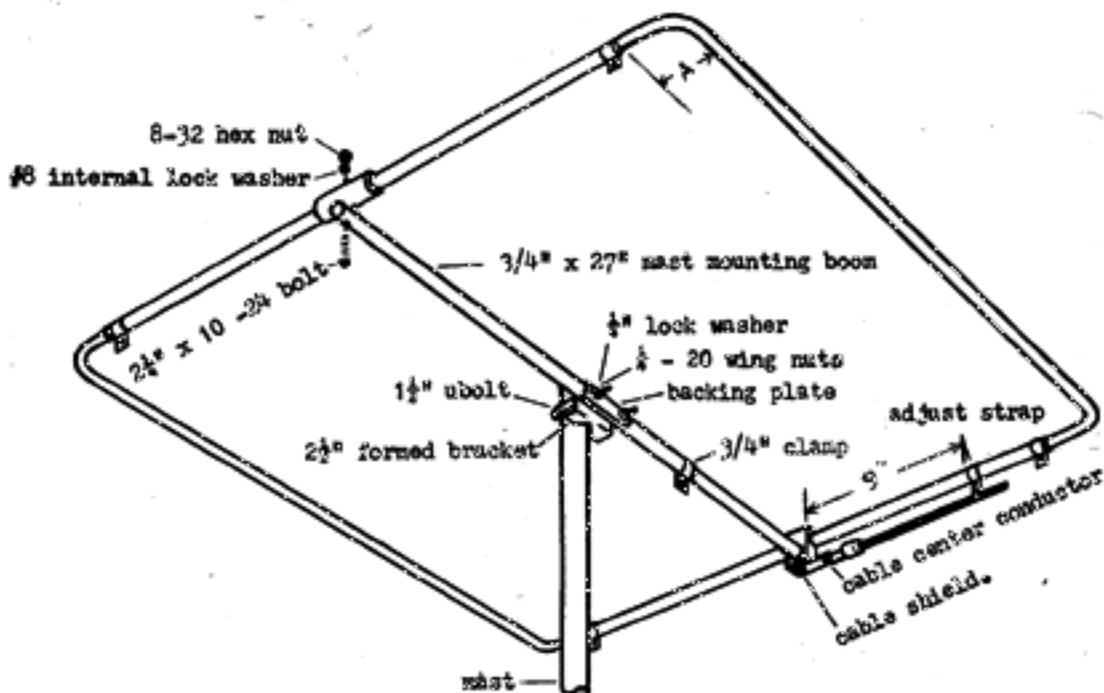

FIGURE 3
- (1) Assemble the Squalo by following step # 2 of the car top mounting instructions. The approximate setting, dimension A is $1 \frac{3}{8}$ " figure 3. For mast mounting the machined aluminum block should be vertical, with the Reddi Match below the $\frac{5}{8}$ " tubing, figure 3.
- (2) Insert the capped end of the $\frac{5}{8}$ " x 9" tubing into the machined block and tighten the set screw. Slide the slotted end of the $\frac{3}{4}$ " x 27" mast mounting boom over the $\frac{5}{8}$ " tubing. Attach the free end to the insulator, and tighten the $\frac{3}{4}$ " clamp, figure 3.
- (3) Mount the Squalo on your mast. Attach the feed line to the Reddi Match. Run the coax along the mast mounting boom, and down the mast, figure 3.